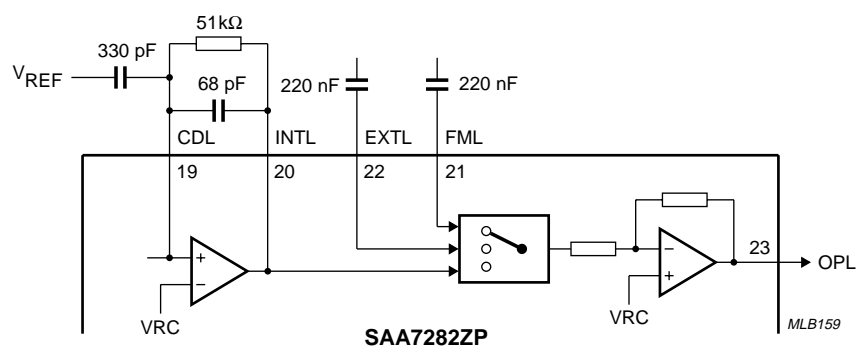

Fig.11 External circuitry for left channel DAC (same external circuit values also required for right channel DAC).
1. Outputs OPL and OPR are measured with external components as recommended in Fig.11.